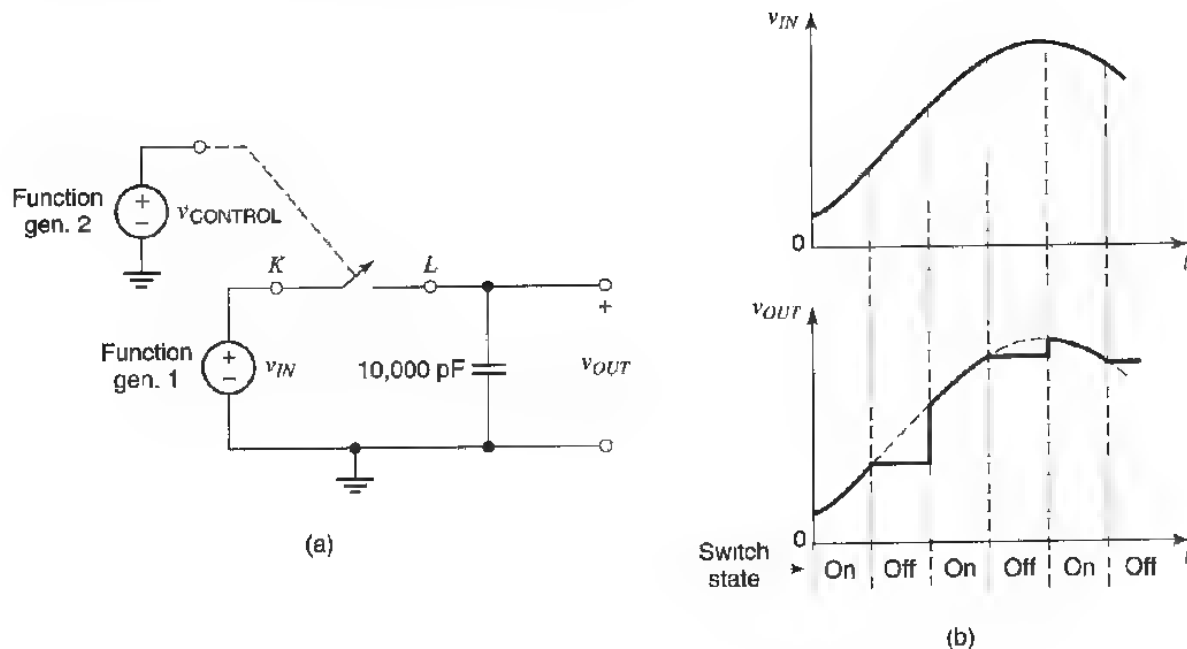

Fig. 9
17. Consider the circuit of Fig. 9(a). It operates as follows:
This operation is illustrated in Fig. 9(b). As seen, when the switch is opened the capacitor holds the above value until the switch closes again, at which point the output again becomes equal to the input and tracks it. This is a *track and hold* circuit. It has many uses; for example, it is found at the input of analog-to-digital converters; during the intervals that the track-and-hold's output is held constant, the converter processes it to convert it to a digital code. This code can then be fed to a computer, to a digital communications link for transmission, or to a digital signal processor for further processing. Analog to-digital converters are used, for example, in recording studios to convert music signals to digital words, which can then be stored on compact discs
20. If you still have time, you can ponder this question: Can you think of a way to further process the output signal of the circuit in Fig. 9(a), so that the varying part in each control voltage period is eliminated? You would need an additional track-and-hold circuit to do this. Do not build such a circuit; just explain how you would build it if you had to. Circuits that produce such waveforms at their output from a continuously varying input signal are called *sample-and-hold* circuits (or, more accurately, *sample-delay-hold circuits*). Sometimes, even the track-and-hold circuit is called a sample-and-hold circuit.